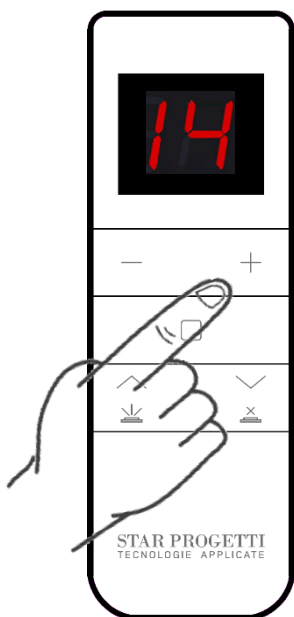
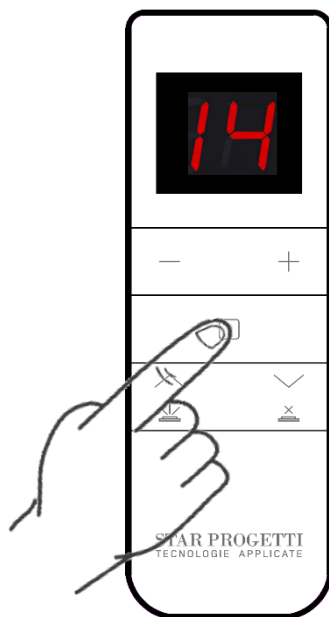

Fig.15
Fig.16
- By using the "+" and "-" buttons select channel 14 Fig.15 and immediately after press the button as shown in Fig. 16